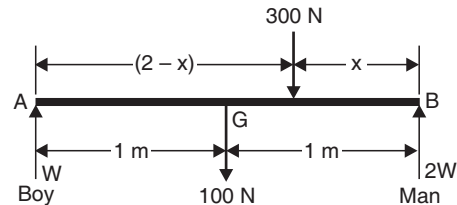

Fig. 3.25
**Sol.** Refer to Fig. 3.25. The weight of the pole acts at its centre G. Let boy bears weight W and the man bears 2W.